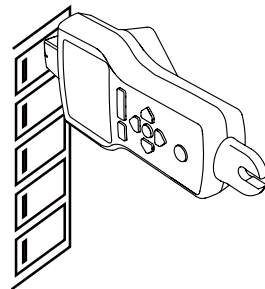

Figure 3.3e: Correct alignment of the Tip Sensor to the breaker
- 2. Scan each breaker/fuse for a second by touching it with the Tip Sensor. Make sure the groove on the Tip Sensor is parallel to the breaker/fuse lengthwise (Figure 3.3e).
2. Rescan each breaker/fuse by touching each with the Tip Sensor for a second. Active red arrow indicates scanning process. Make sure the groove on the Tip Sensor is parallel to the breaker/fuse lengthwise (Figure 3.3e).